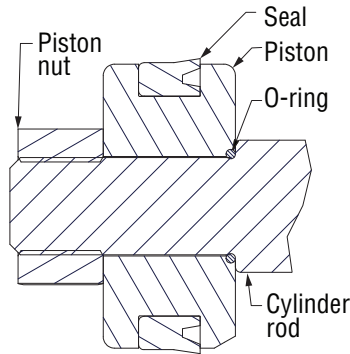

Figure 4-5, Piston Seal
- Note the direction of the seal on the piston. Improper installation will result in poor performance. The cupped side or O-ring side of the seal should be facing the gland cap. (Figure 4-5)